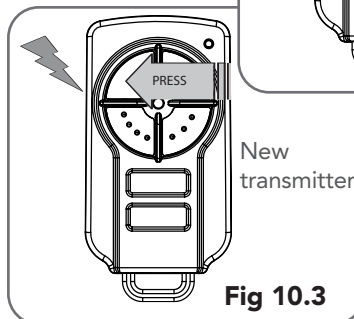

Fig 10.3
- Within 10 seconds, press the button on the new transmitter you wish to code for 2 seconds (**Fig. 10.3**).